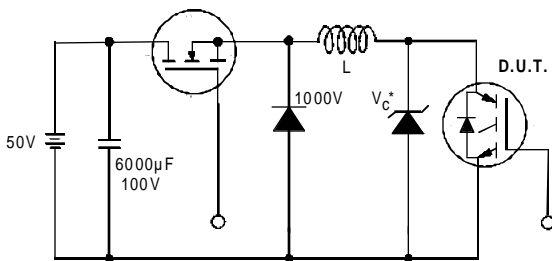

Figure 19. Clamped Inductive Load Test Circuit
- ② $V_{CC} = 80\%(V_{CES}), V_{GE} = 20V, L = 10\mu H, R_G = 23\Omega,$ (See fig. 19)
- ③ Pulse width $\leq 80\mu s$; duty factor $\leq 0.1\%$.
- ④ Pulse width 5.0 μs , single shot.
- ② $V_{CC}=80\%(V_{CES})$, $V_{GE}=20V$, $L=10\mu H$, $R_G = 10\Omega$ (Figure 19)
- ④ Pulse width $5.0\mu s$, single shot.